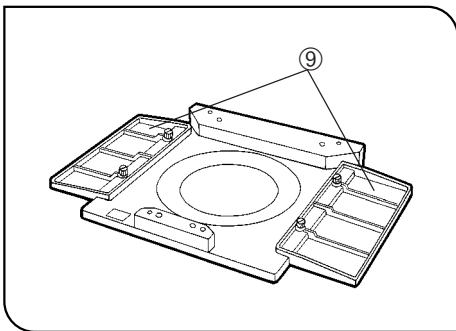

Fig. 89
Ⓞ When the mechanical stage is not used, substages ⑨ can be attached at both sides of the plain stage. (Fig. 89)